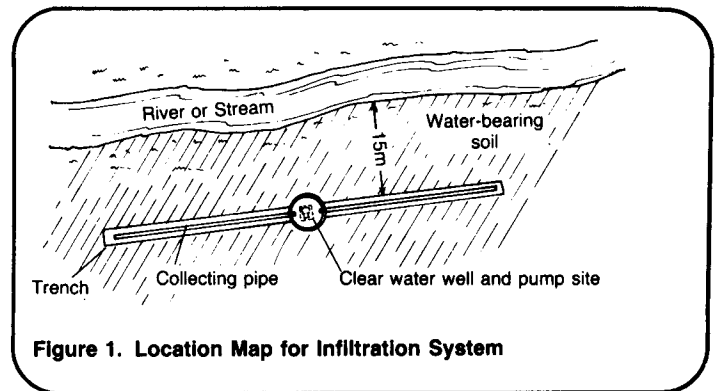
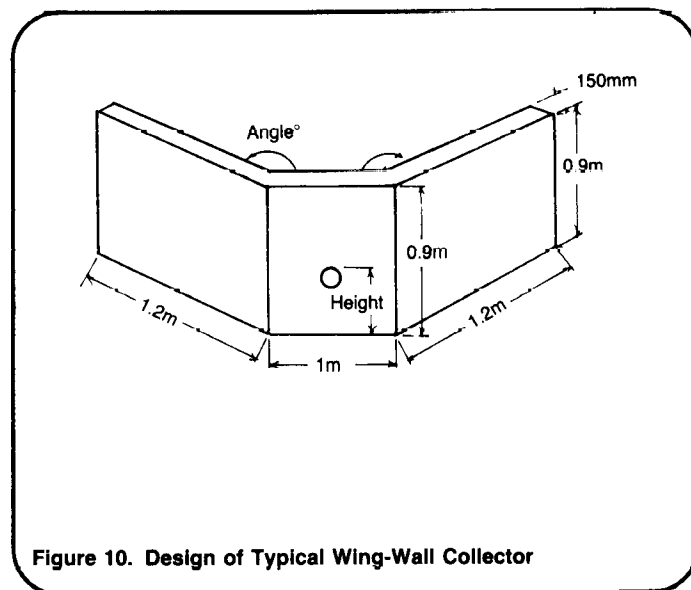

Figure 1. Location Map for Infiltration System
Figure 10. Design of Typical Wing-Wall Collector
(1) A map of the area, including the location of the intake system and related items similar to Figure 1 which shows the location of an infiltration gallery.
(2) A list of all labor, materials and tools needed as shown in Tables 1, 2, or 3.
(3) A detailed plan of the intake system with all dimensions similar to Figure 10.